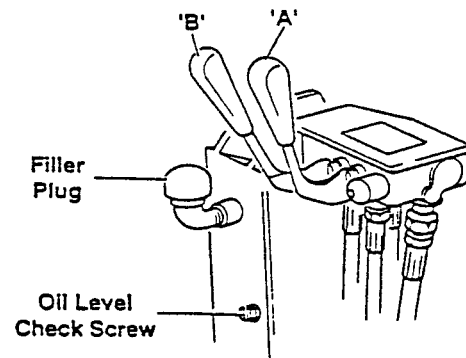

FIG. 12
- Add 2 1/2 more quarts of hydraulic oil or until oil runs out the check hole. Replace oil fill plug and oil check screw. (See Fig. 12).